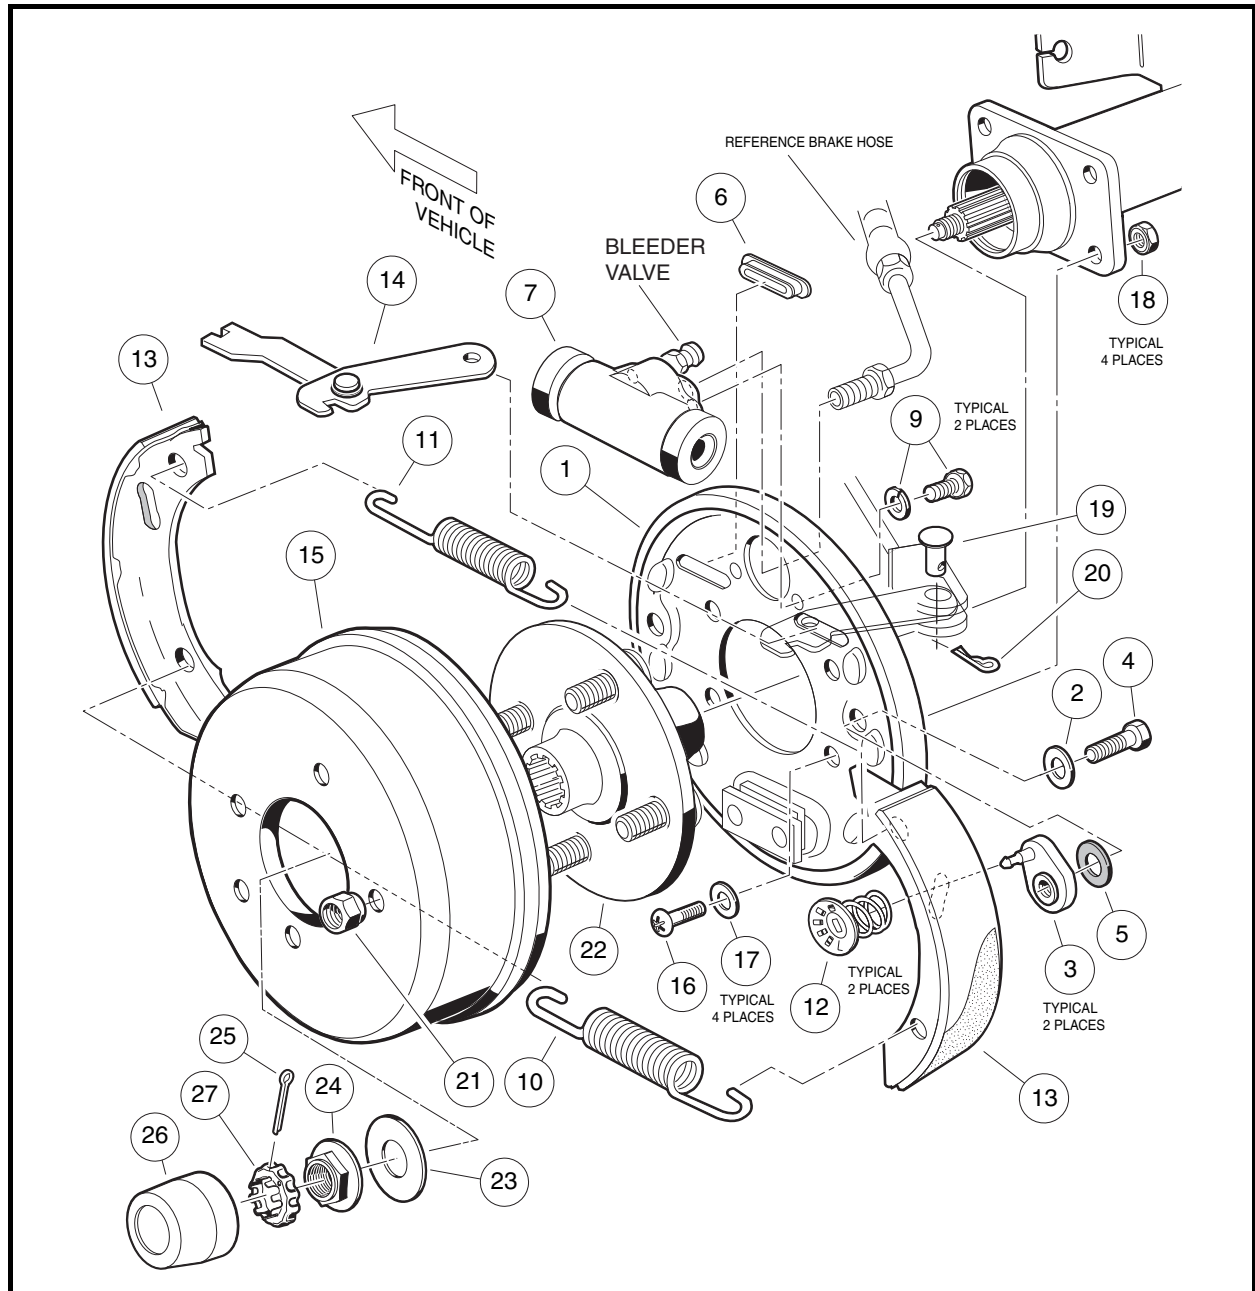

Figure 6-19 Rear Hydraulic Brake Cluster Assembly
1. Place the brake drum (15) onto the wheel bolt flange and brake cluster (**Figure 6-19, Page 6-21**). See following **NOTE**.
- Do not apply more than 65 in-lb (7.3 N·m) of torque to any of the adjuster bolts. Overtightening the adjuster bolts could result in damage to the brake cluster components or the separation of the bolt (4) from the adjuster (3) (**Figure 6-1, Page 6-2** or **Figure 6-19, Page 6-21**).
5. Install the wheel and finger-tighten the lug nuts (21) (**Figure 6-19, Page 6-21**).
8. Use a Torx #T-40 driver and remove the four Torx-head bolts (16), washers (17), and locknuts (18) that secure the brake cluster back plate to the axle tube flange (**Figure 6-19, Page 6-21**).
1. Install the back plate to the axle tube flange with four new Torx-head bolts (16), washers (17) and lock-nuts (18). Tighten all four bolts to 76 in-lb (8.6 N·m) (Figure 6-19, Page 6-21). See following CAUTION.
5. Remove two bolts (9) and lockwashers that secure the wheel cylinder to the mounting plate (1), and remove the wheel cylinder (7) (**Figure 6-19, Page 6-21**).
4. Grip adjuster arm (3) with a pair of locking pliers and use a Torx #T-27 driver, or 7/16-inch socket to remove the bolt (4), flat washer (2) and Bellville washer (5) from the brake cluster back plate (1) (**Figure 6-19, Page 6-21**). Remove remaining adjuster assembly and discard all adjuster components (3, 4, 2, and 5) for both assemblies.
1. Install bolt (4) and flat washer (2) to the back plate (1) (**Figure 6-19, Page 6-21**).
2. Apply a light coat of grease to the Bellville washer (5) and install the washer onto the bolt (4) and against the inside surface of the back plate (1).
3. Carefully apply Loctite 222 to the threaded portion of bolt (4) and attach the adjuster arm (3). Position adjuster so that the brake mounting post is to the top of the back plate.
4. Grip adjuster arm (3) with a pair of locking pliers and tighten the bolt (4) to 115 in-lb (13 N·m).